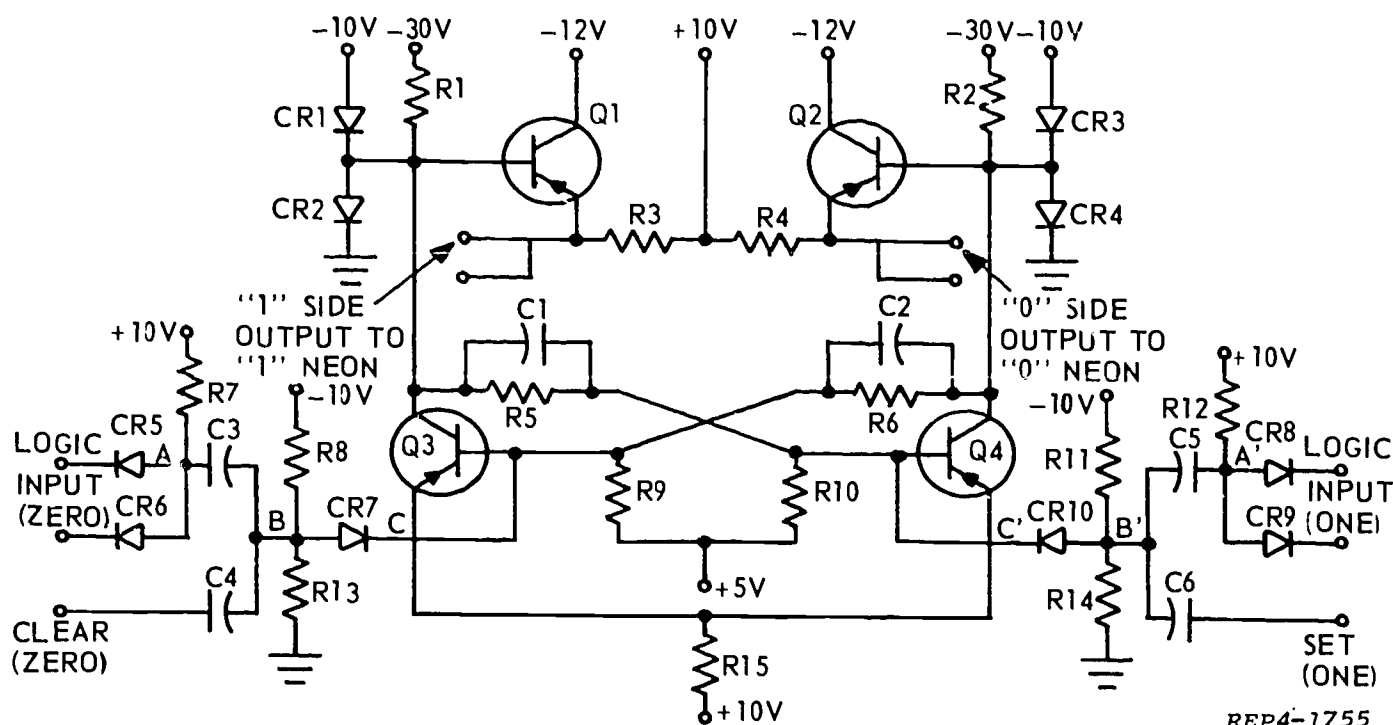

Figure 1-2. Flip-flop schematic.
Logic Flip-Flop. Just how does the basic Eccles-Jordan multivibrator differ from the logic flip-flop? Figure 1-2 illustrates a version of the computer logic FF with several circuit modifications which render it compatible for use with other logic circuits. These modifications consist of the following:
4. What is the purpose of diodes CR1 through CR4 in figure 1-2?
5. What function is performed by CR5, CR6, and CR7 in figure 1-2?
6. What transistors make up the basic multivibrator in figure 1-2?